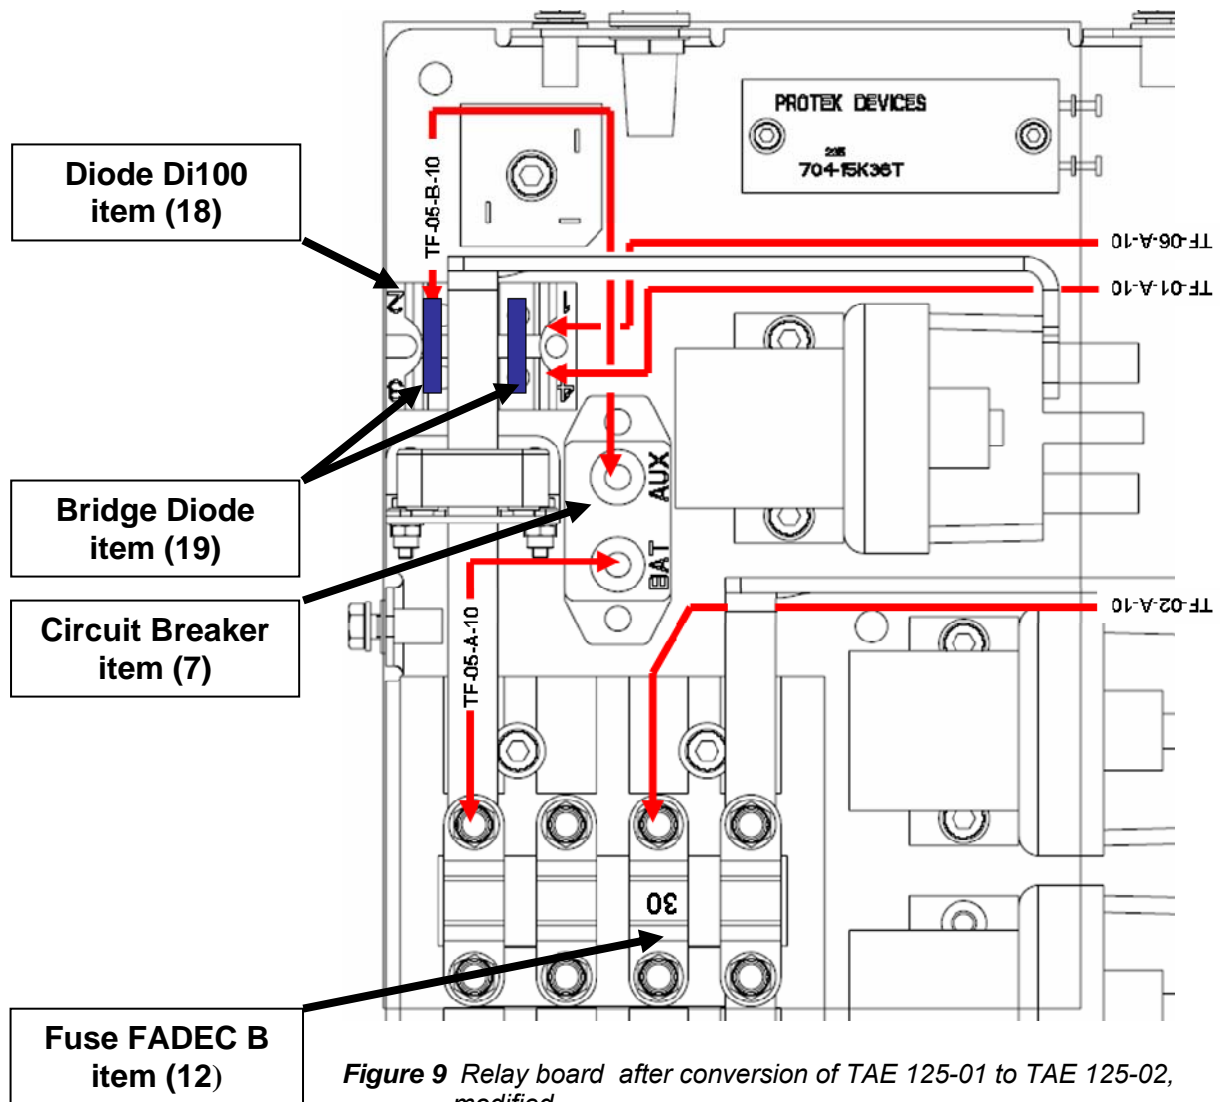

Figure 9 Relay board after conversion of TAE 125-01 to TAE 125-02, modified
8. Modification of relay board TAE for versions 14V and 28V after conversion from TAE 125-01 to TAE 125-02 installation, Cessna (F)172 Model F,G,H,I,K,L,M,N (see figure 9)
- Remove fuse 50A FADEC from the fuse holder and change it with a 30A (12) fuse.
- *Install new circuit breaker (7) into the relay board.*